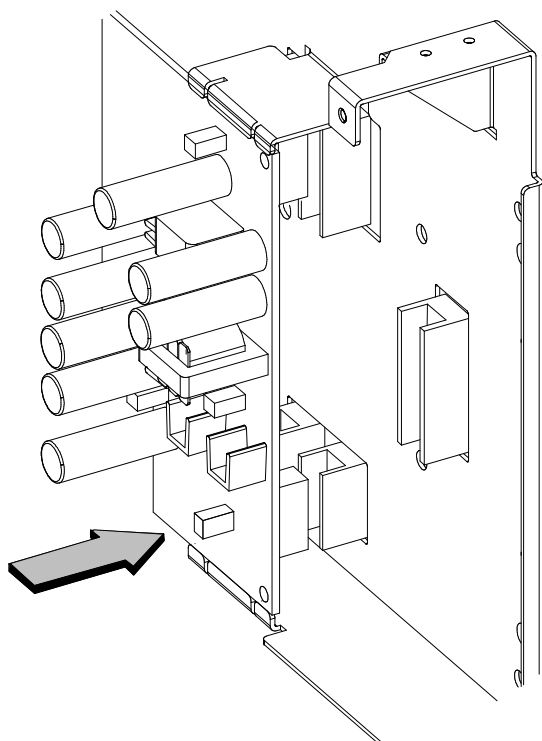

Figure 15.DC to DC Converter connector alignment
- 3.** Align connectors as shown in fig 15